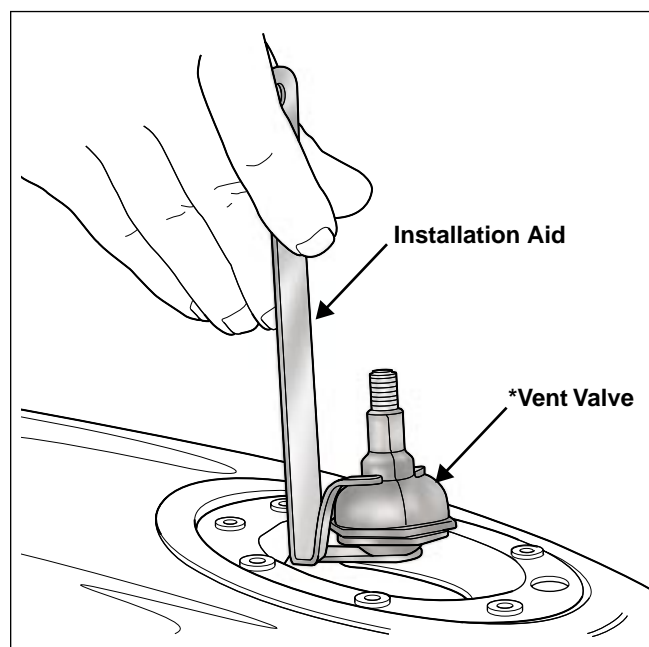

Figure 2. Installing Fuel Tank Vent
2. See Figure 2. Using the fuel vent valve installation aid, lower the **new** fuel tank vent valve into the fuel tank through the fuel filler neck.